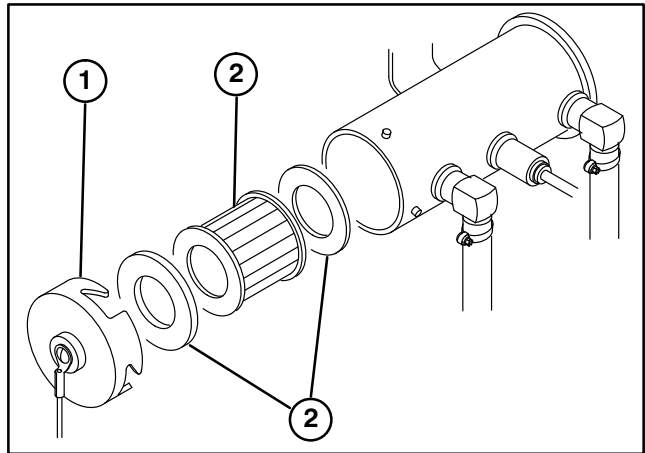

Figure 44
4. Place a drain pan under fuel pump and remove cover from fuel pump (Fig. 44). Take care not to damage wire while removing cover.
5. Pull filter out of pump body (Fig. 44).
8. Clean cover of any residue (Fig. 44), insert filter into body and install cover.